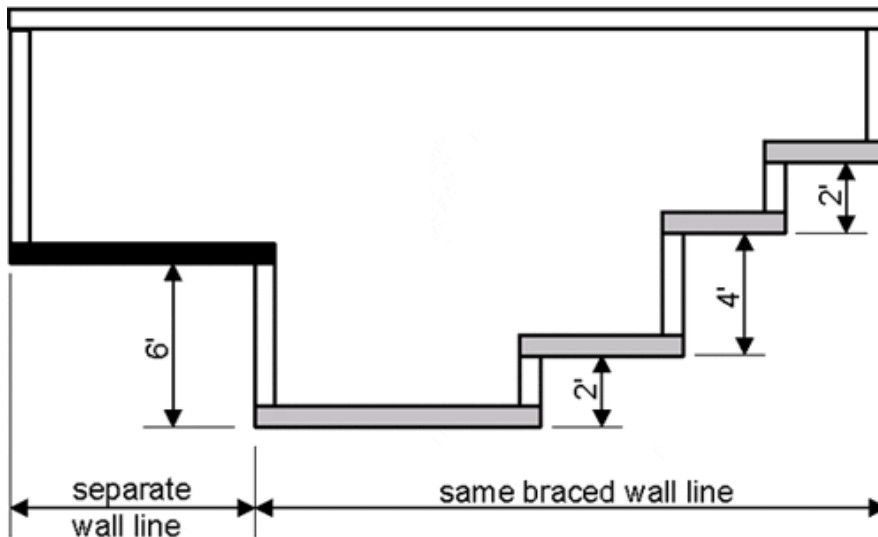

Figure 1
- A **Braced Wall Line** is a location of lateral-force resistance construction and is typically a straight-line wall, but may include some offsets. A single offset of 4'-0" maximum, or multiple offsets that are each 4'-0" maximum, is allowed in a single braced wall line, as long as the sum of all the offsets is 8'-0" maximum (See **Figure 1** below):